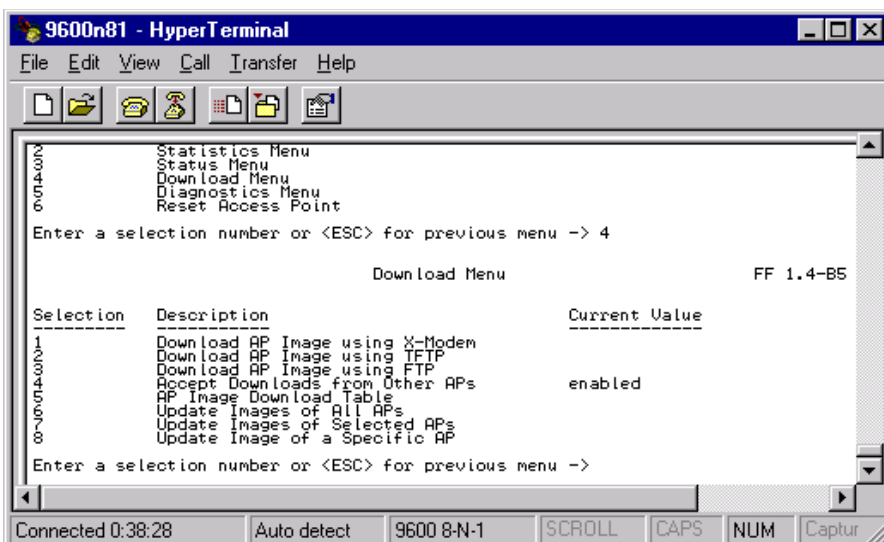

Figure 5-59 Down Load Menu
Step 6. Type **4** (Down load Menu) after Enter a selection number and **Enter** to display the Down Load Menu shown in Figure 5-59.